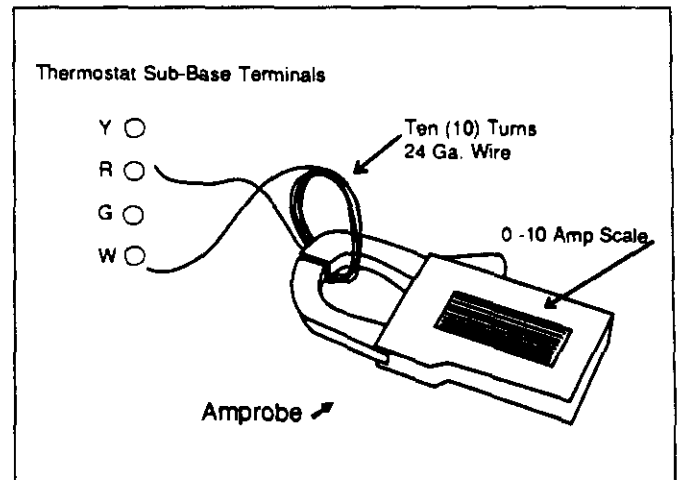

FIGURE 23
4. Make sure 115-volt power to furnace is on. Connect ends of wire on ammeter across terminals "R" and "W" of thermostat sub-base. Follow Figure 23.